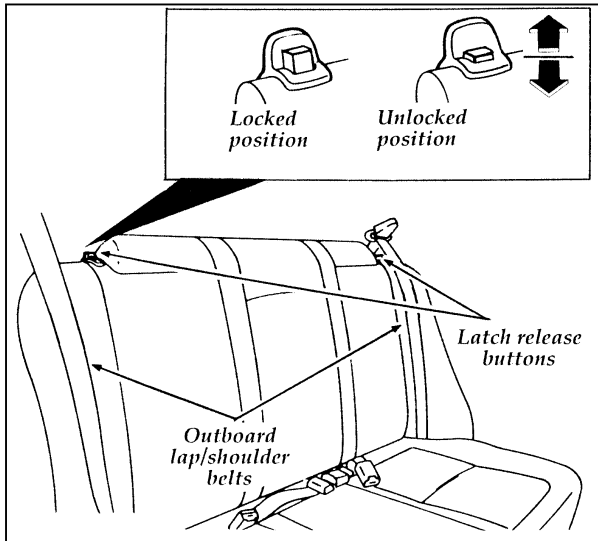

Figure 2: Latch release buttons
3. While holding the shoulder and lap belt portions together, route the tongue through the child seat according to the child seat manufacturer's instructions. See Figure 2. Be sure that the belt webbing is not twisted.
4. Route the tongue and webbing through the child seat according to the child seat manufacturer's instructions. See Figure 2. Be sure that the belt webbing is not twisted. If so, remove the twist. (For instructions on how to remove a twist, see the *Procedure to Correct a Rotated Tongue on the Safety Belt* section in this chapter.)
When the latch release buttons are in the full up position (locked) and the built-in child seat is open, the rear seatback cannot be unlocked and folded down. See Figure 2.